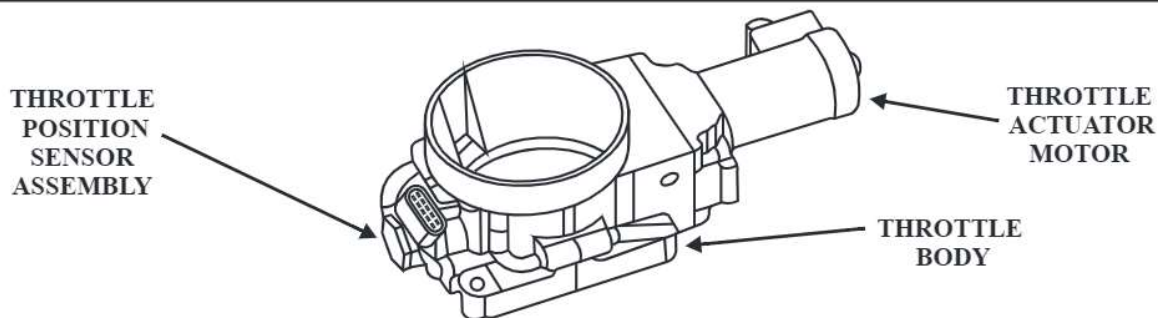

Figure 72
- The *Throttle Body* contains the *Throttle Position Sensor Assembly* (See Figure 72) which contains two throttle position sensors and are used to determine throttle plate angle. The throttle body also contains the *Throttle Actuator Motor* (See Figure 72). This electric motor opens and closes the throttle plate. The throttle plate is spring loaded in both directions with the default position being slightly open.
- The Throttle Position Sensor assembly is faulty, (Refer to Figure 72).
- The throttle plate actuator motor is faulty, (Refer to Figure 72).
- Binding of the throttle plate in the throttle body, (Refer to Figure 72).
- The Throttle Position Sensor assembly has a mechanical problem, (Refer to Figure 72).
- The Throttle Plate Actuator Motor is mechanically faulty, (Refer to Figure 72).